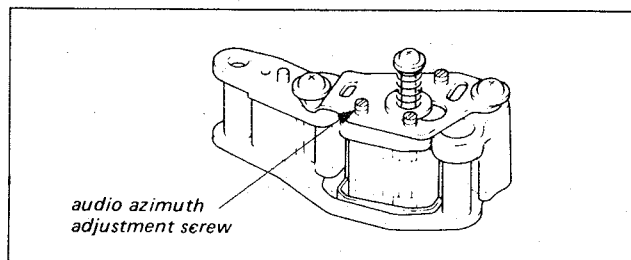

Fig. 4-11.
- 2) Turn the azimuth adjustment screw (Fig. 4-11) so that the amplitude of the 5 kHz waveform is maximum.